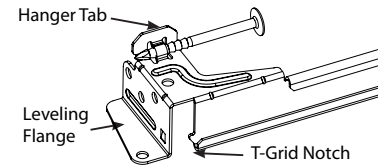

Fig. 1
1. Extend bar hangers between joists, placing automatic leveling flange under edge of joist. Mount to joist using pre-installed nail (Fig. 1).